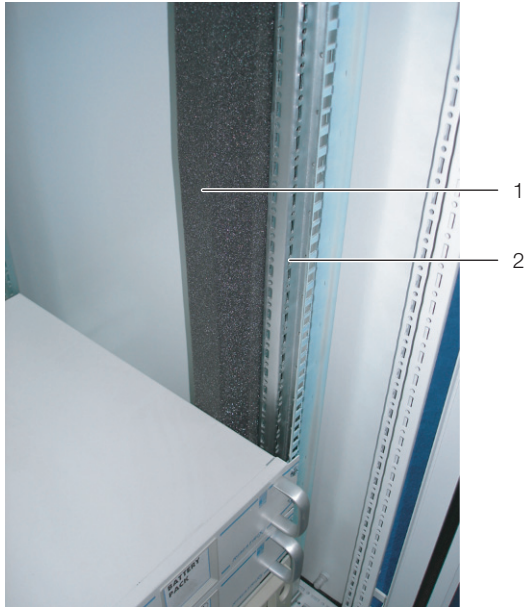

Fig. 11: Foam strip on a server rack upright
- Fasten the wider (Model No. 3301.370 / 3301.320) of the two foam strips from the LCP DX accessories onto one of the front uprights of the server rack from the outside (fig. 11). Make sure to install this strip on the side of the server enclosure onto which the LCP DX is to be bayed.
- **If you are only baying the LCP DX on one side:** Fasten the narrower (Model No. 3301.380 / 3301.390) of the two foam strips from the LCP DX accessories onto one of the front uprights of the server rack from the outside (fig. 11). Make sure to install this strip on the side of the server enclosure which will again be sealed by a side panel.